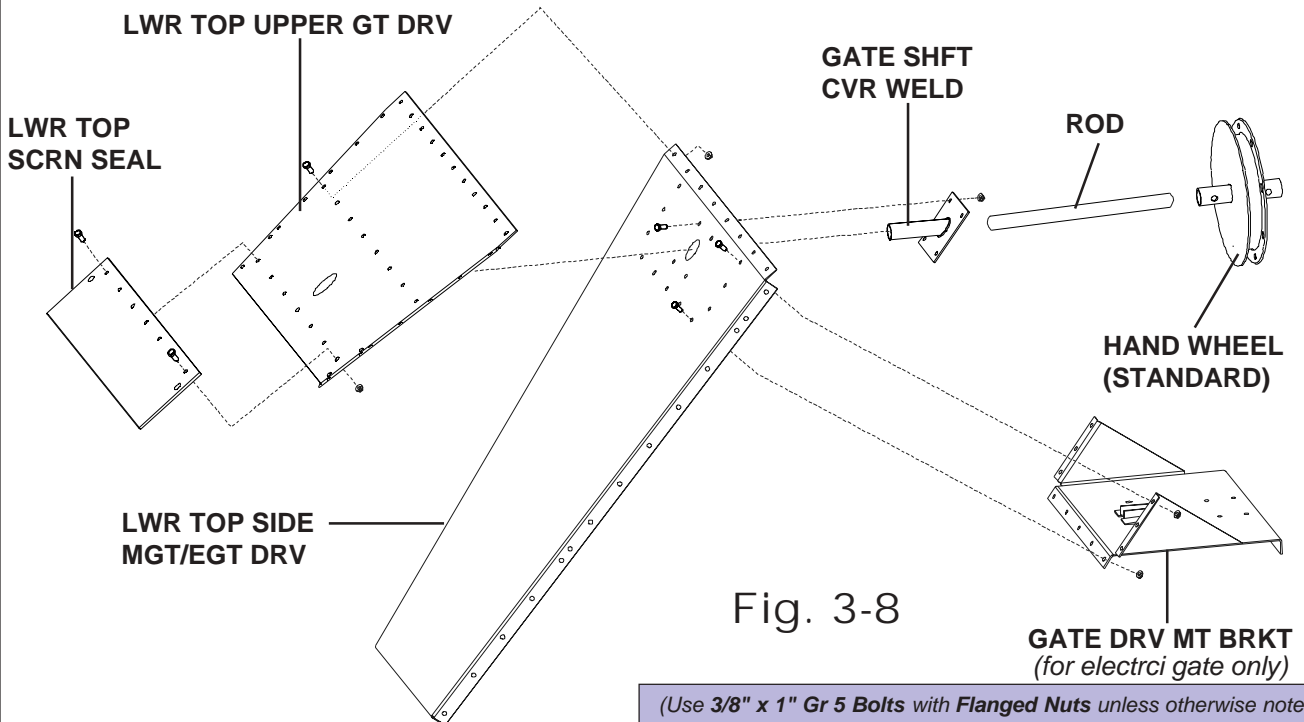

Fig. 3-8
9. **Watch for the location** of the Gate Drive and assemble the **LWR TOP SIDE MGT DRV** (**EGT** for optional electric drive) and the **LWR TOP UPPER MGT DRV** or **EGT** to the **RING BM WELD** at the predetermined location. Install the **GATE SHFT CVR WELD** through the sheet. Where the Electric Gate Drive is utilized, mount the **GATE DRV MT BRKT** to the outside of the Lower Top Side sheet. (See Fig. 3-8)